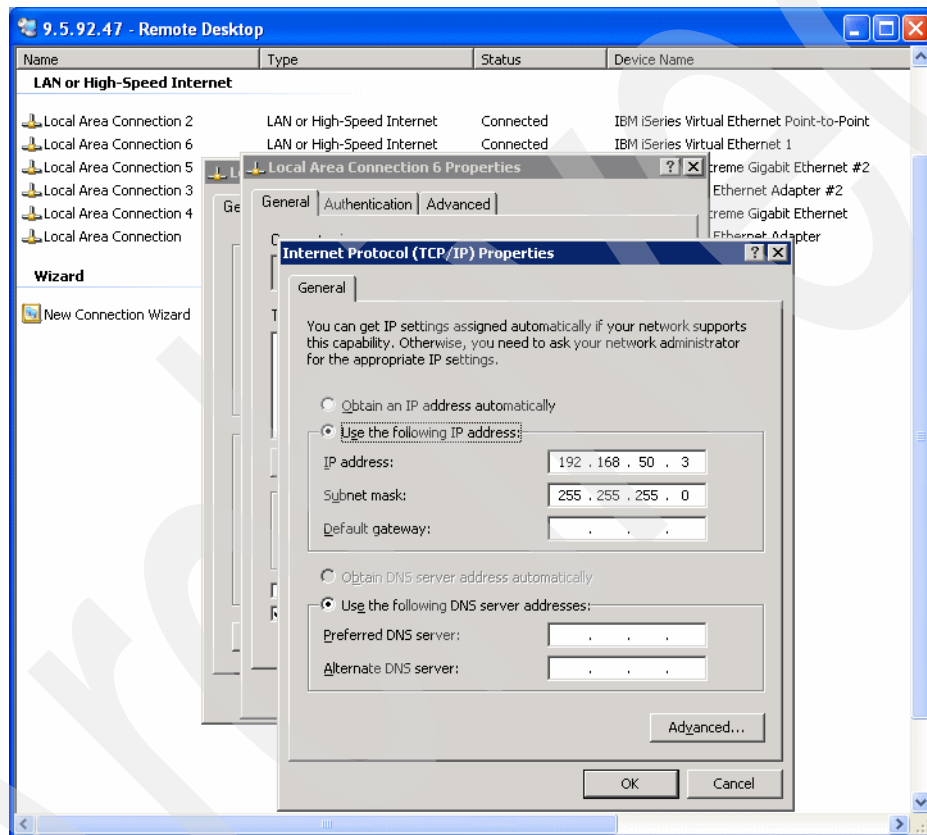

Figure 9-78 Browsing Windows Network Connections (xSeries) - 2
- b. Double-click **Internet Protocol (TCP/IP)** and you see a window similar to the one shown in Figure 9-78.
Figure 9-78 shows the IP address of the Windows end of the Virtual Ethernet LAN. This is the address that was automatically generated in the case of the point-to-point Virtual Ethernet LAN, or the address we assigned to it in the case of a non-point-to-point Virtual Ethernet LAN.